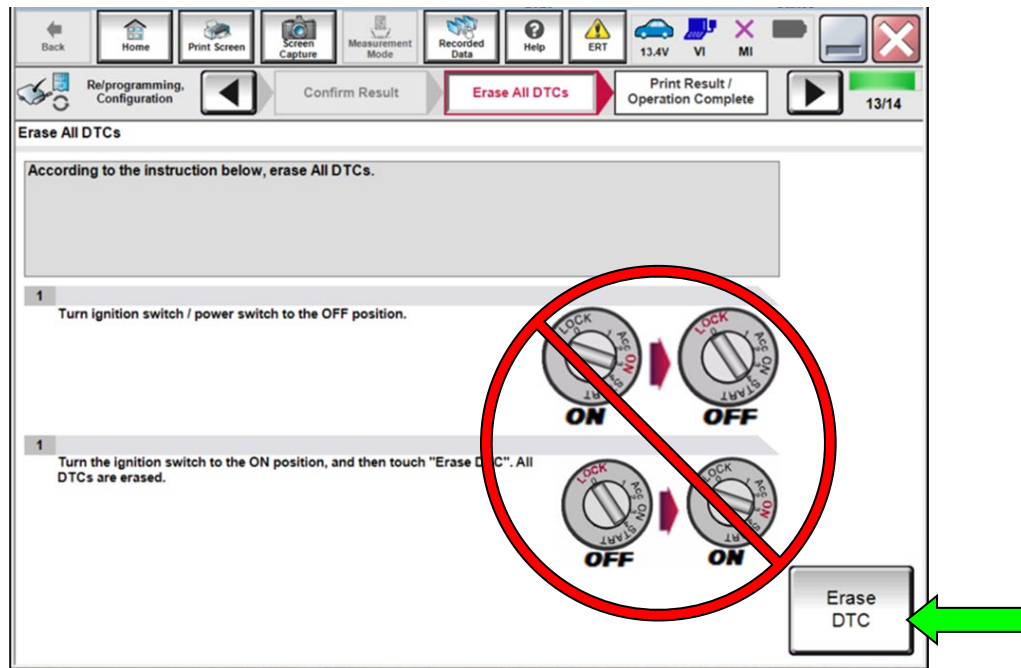

Figure 27
38. Once the screen in Figure 27 displays, select **Erase DTC ONLY**. **DO NOT** change ignition switch position.